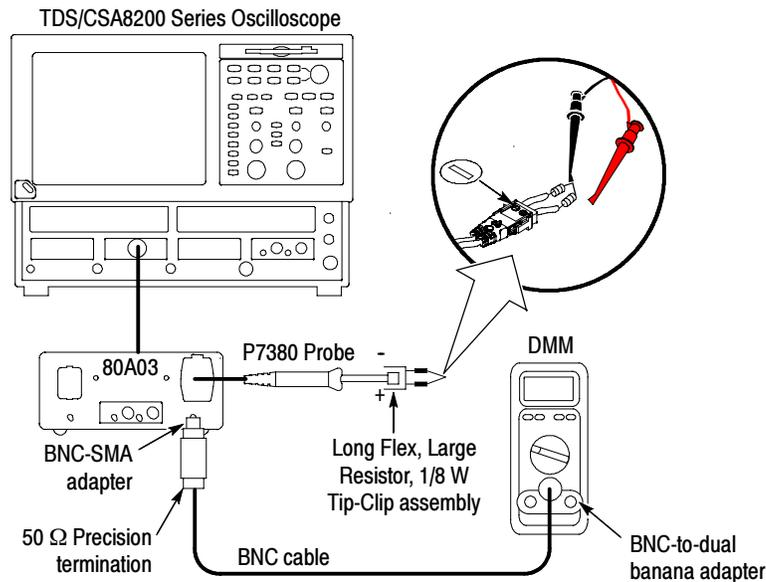

Figure 19: Setup for the output offset zero test
1. Connect the equipment as shown in Figure 19.
3. Short the two Tip-Clip leads together (see Figure 19.) We recommend using the BNC(m)-to-Minigrabber (black) with the Minigrabber not grounded.